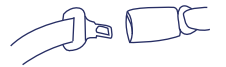

Fig. 18-2
- 3.3.2) A lap belt that cannot be lengthened once it is fastened is suitable for use with the Safety Seat. These seat belts often have an automatic locking retractor that will allow the belt to be lengthened but once fastened, must be unbuckled and allowed to retract fully before allowing the belt to be lengthened again (Fig. 18-2).